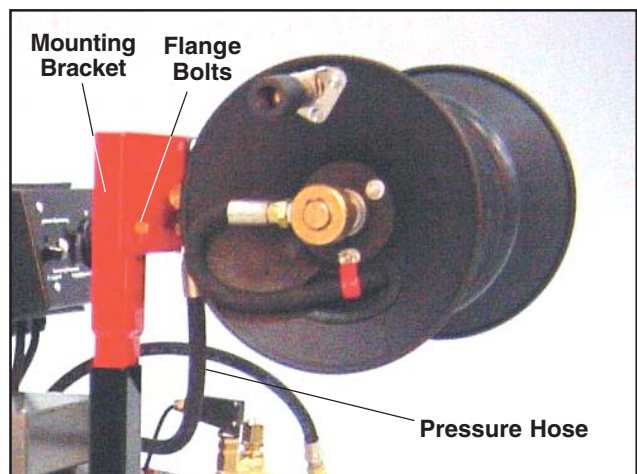

Figure 3
3. Using the supplied 3/8" x 3/4" flanged bolts and 3/8" flanged nuts, mount hose reel to mounting bracket. See *Figure 3*.
4. Mount hose reel assembly to machine. Slide hose reel bracket into hose reel mounting post on machine. See *Figure 3*.